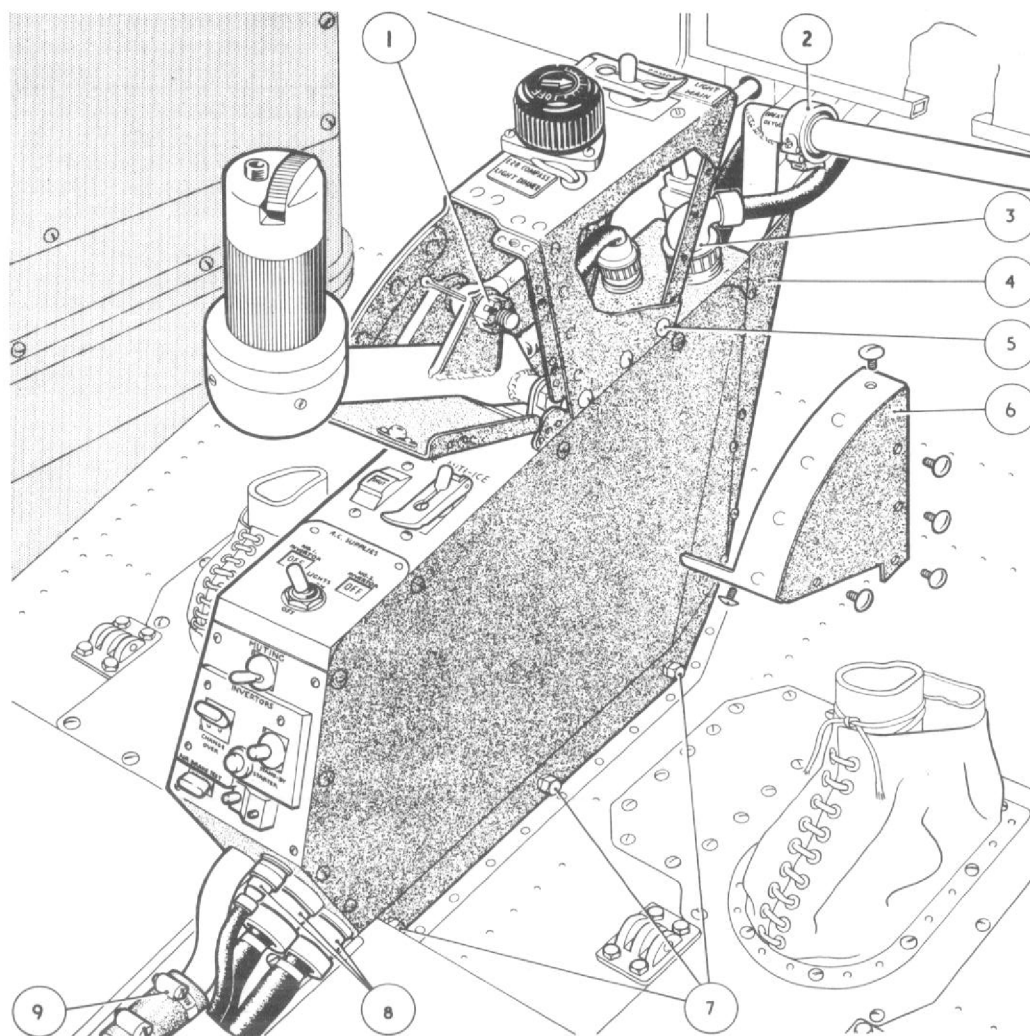

Fig. 3 Removal of centre console and throttle box
**Centre console and throttle box (fig.3)**